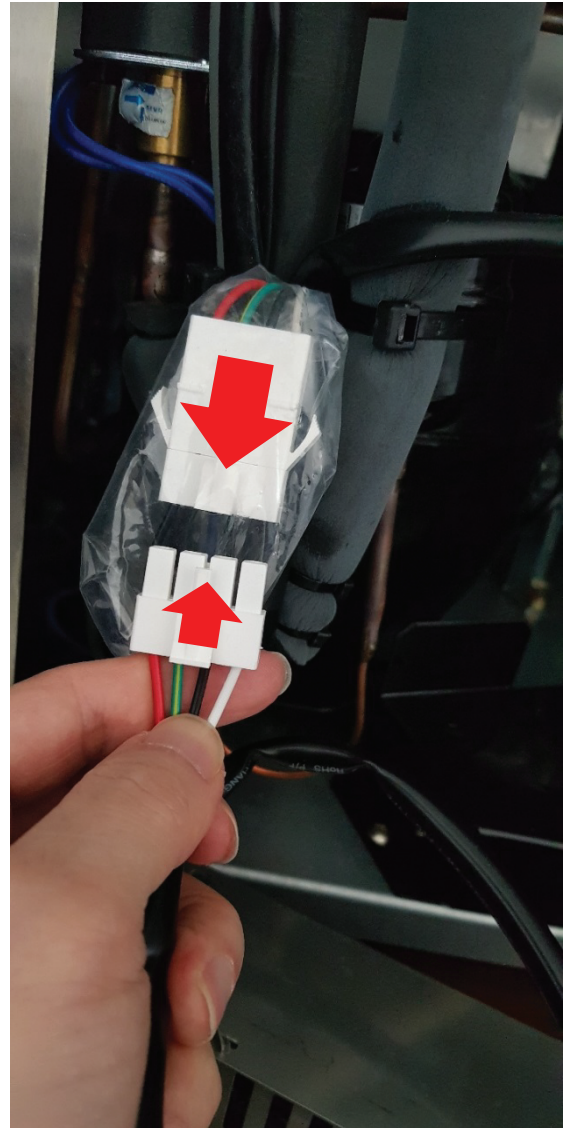

Figure 10
13. Securely attach the pump connection to the ice maker connection making sure to match the order of the wire colors at both ends (Figure 10). Replace the plastic covering over the connectors and resecure the cable if necessary using the cable tie provided.